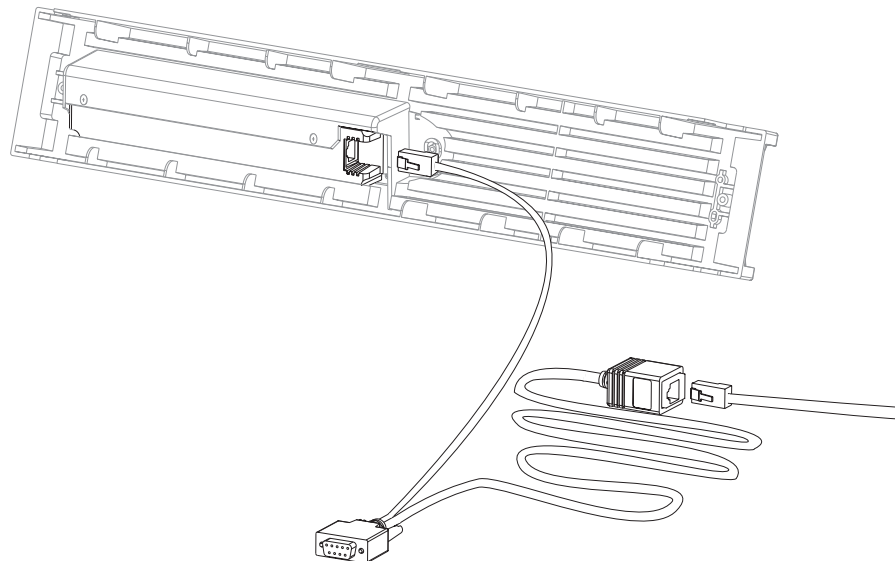

Figure 7: Connect the PowerView RM Programming Cable
3. Connect the programming cable (included, APC part number 940-0082) between PowerView and the Symmetra RM cable. To connect the programming cable, refer to steps a–c and Figure 7.